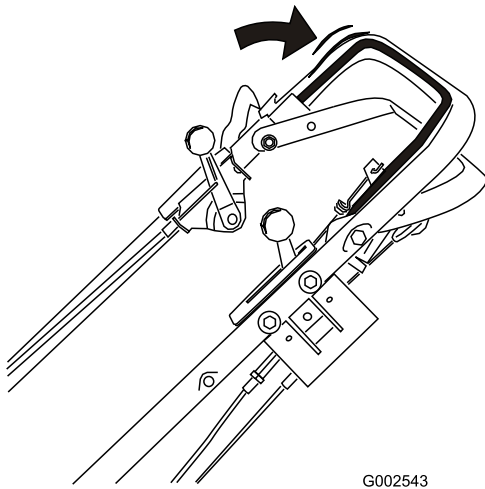

Figure 15
2. Pull the blade control bar to the handle and hold it (Figure 15).